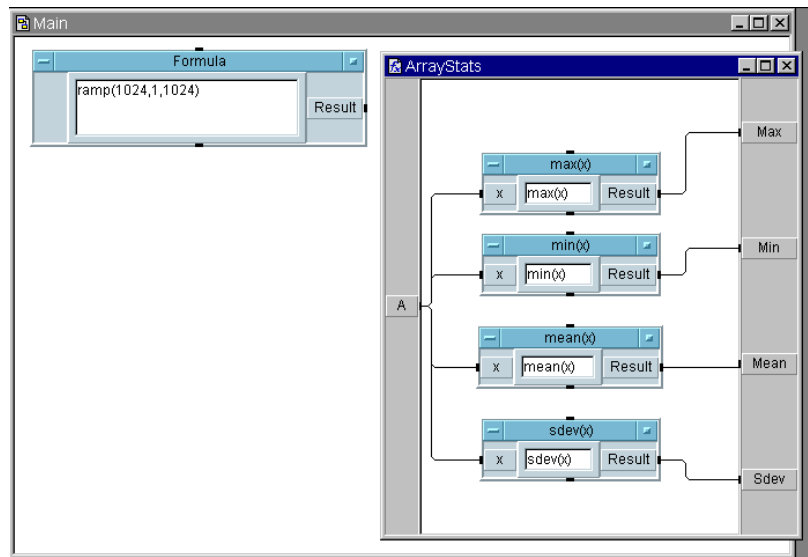

Figure 8-1. The Main and ArrayStats Windows
- d. Place them in `ArrayStats`, and connect their data inputs to `A` and their data outputs to the appropriate output terminals. Make the `ArrayStats` window smaller to see both of the `Main` and `ArrayStats` windows. See Figure 8-1.